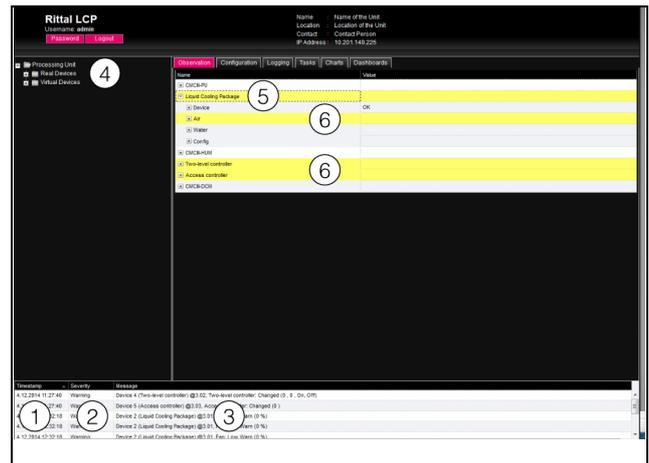

Fig. 109: Layout of message display
1. Timestamp: The date and time when the error occurred (fig. 109, item 1).
2. Severity: Severity of the error. A distinction is made between Warnings and Alarms (fig. 109, item 2).
3. Message: Error message in plain language (fig. 109, item 3).
- Left-hand screen section (navigation area): The symbol in front of the component on which the error occurred is shown in red in the tree view in the event of an alarm message, and yellow in the event of a warning message (fig. 109, item 4).
- Right-hand screen section (configuration area): On the **Observation** index tab, the entire component and the specific parameter to which the warning or alarm applies is shown in red or yellow (fig. 109, items 5 and 6).